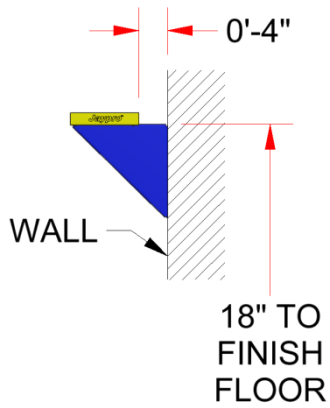

Figure 1
4. Mark your holes and spacing per Figure 1 & 2, before drilling wall bracket.